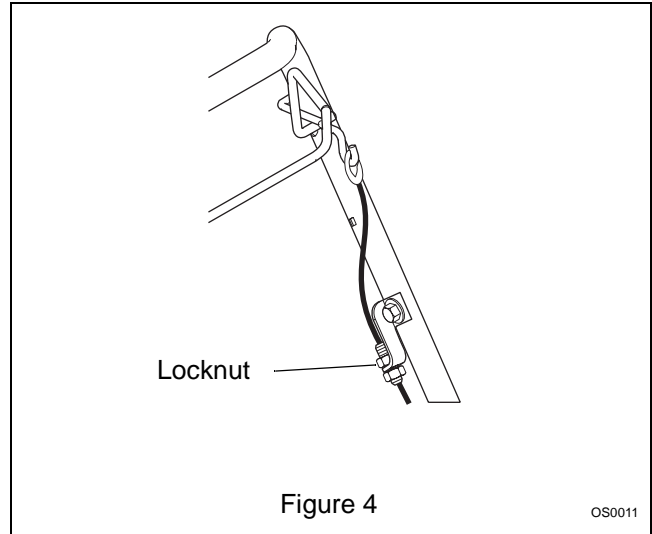

Figure 4
2. Loosen locknut on threaded section of control cable adjusting feature (Figures 4 and 5.)